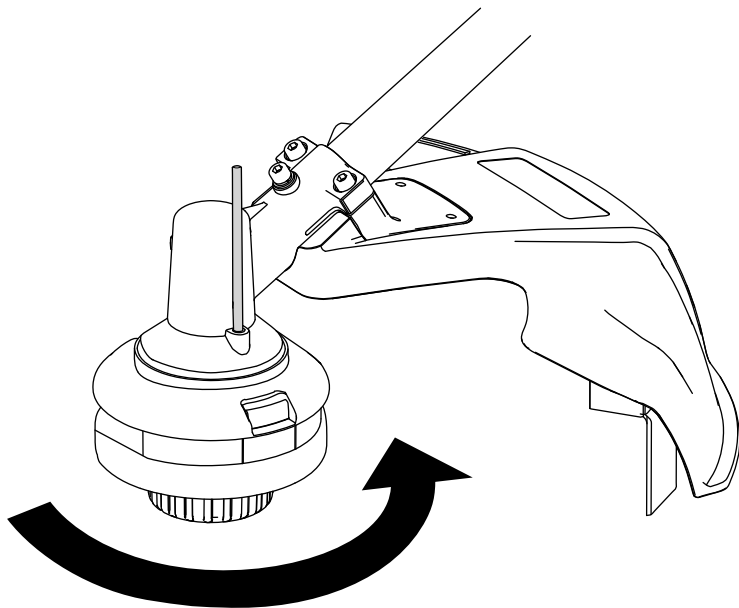

Figure 14
3. With a tool securing the trimmer head, rotate the trimmer head counterclockwise to remove it from the threaded gearcase post (Figure 14).